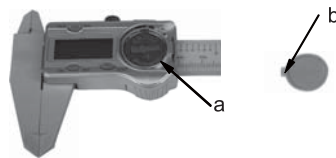

fig.2
- Put the rubber cover on battery, the 'FRONT' side should face out and the protruding part 'b' of the rubber cover should fit into the notch 'a' of the battery house (fig.2)